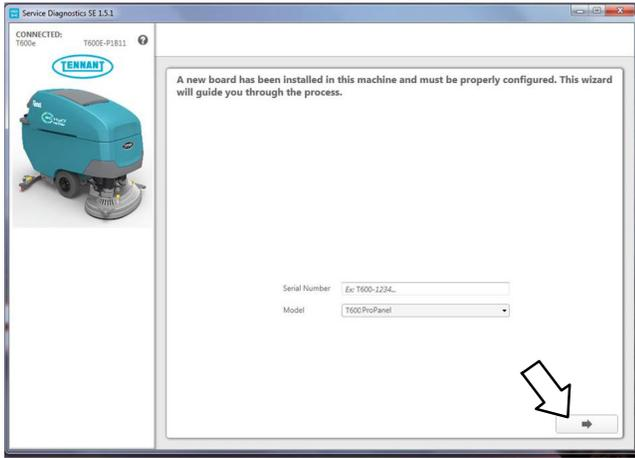

Fig. 11
- 6. The following screen will appear when the Service Diagnostics tool is connected to machine (Figure 11). Enter the machine serial number (ex. T600e- 12345678). Select the appropriate model from the drop-down menu. Press the arrow button to advance to next screen.